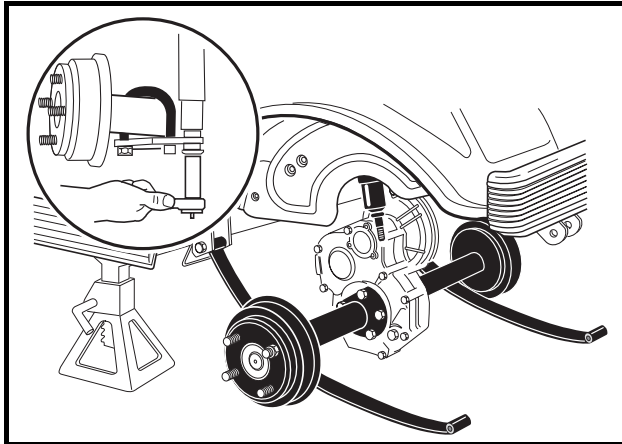

Figure 16-4 Lower Axle
- To gain easier access to the motor, lower the transaxle as low as it will go. If more room is needed, remove the jack from beneath the transaxle and allow the springs to rest on the floor (**Figure 16-4, Page 16-4**).